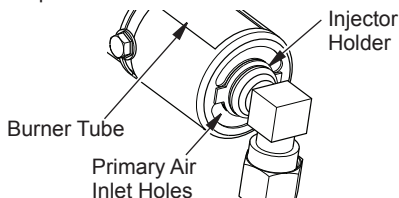

Figure 58 - Injector Holder On Outlet Burner Tube
2. Inspect burner, pilot and primary air inlet holes on injector holder for dust and dirt (see Figure 58).